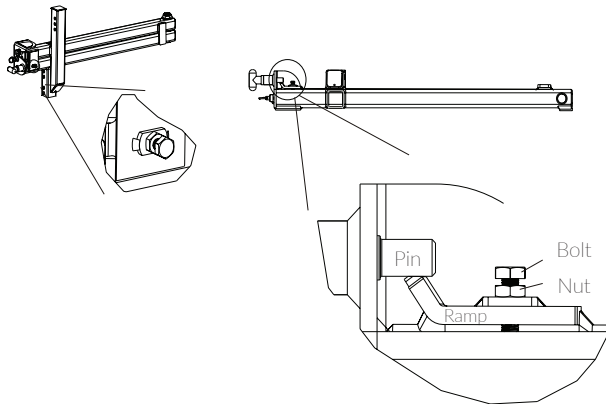

Figure 4-15
3. Tighten the nut. Open and close the swing-away. *See Figure 4-15.*